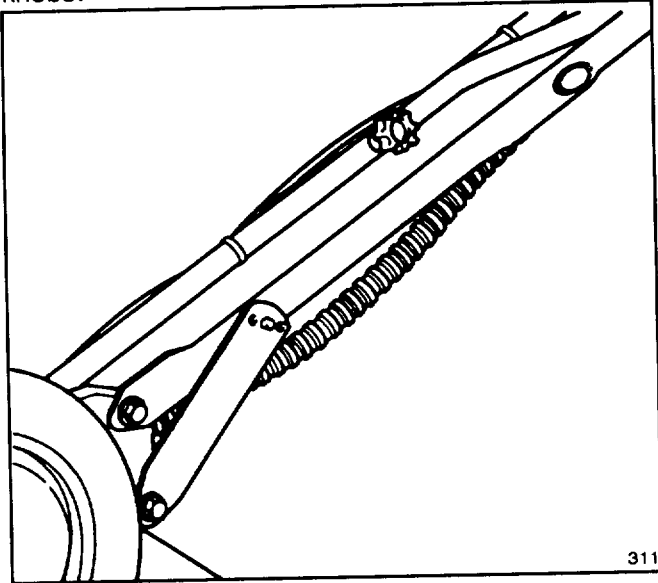

Figure 1
INSTALL HANDLE (Fig. 1)
3. Secure control cables to right handle with (2) cable ties (Fig. 1).